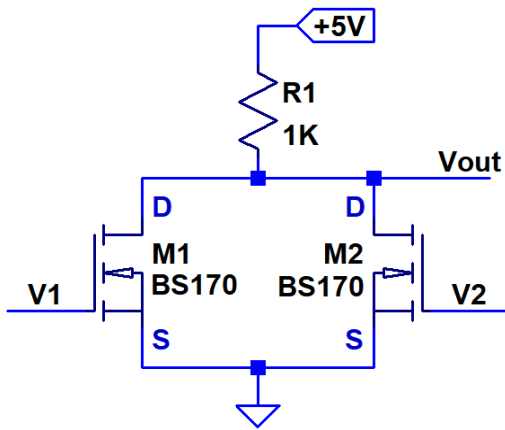

Fig. 2. Logic circuit 1.
- a. Construct the circuit of Fig. 2. Use the 6V supply for the 5V power supply and the two input voltages. Use the multimeter to measure V_{out} with 2 digits of precision.
4. Determine the logic functions of the circuits in Figs. 2 and 3 from their input/output tables. Assume output voltages above 2.5 V are logic 1 and those below 2.5 V are logic 0.